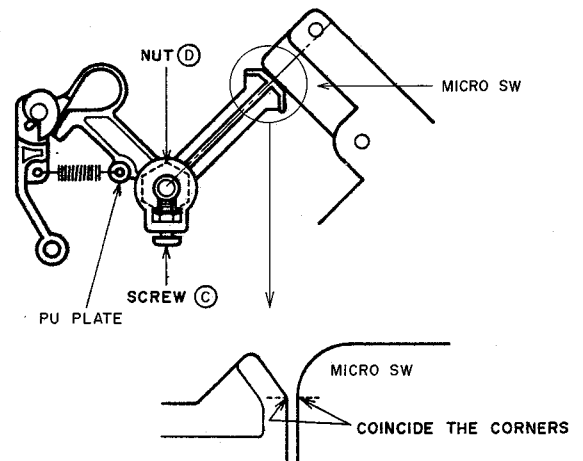

Fig. 5-3
- 2) Loosen the Screw (C), and Confirm that the PU PLATE is installed all the way into the Nut (D).
- 3) May loosen the screw (C) a little and turn PU PLATE so that the corner of those PU PLATE and Micro SW are coincide as shown Fig. 5-3.
- 4) Tighten screw (C).
- 5) Next excute an AUTO RETURN operation and confirm that the AUTO RETURN position is proper. Do the fine adjustment in item 6-2 AUTO-RETURN ADJUSTMENT if necessary.
- 6) Paint lock the screw (C) after the adjustment.